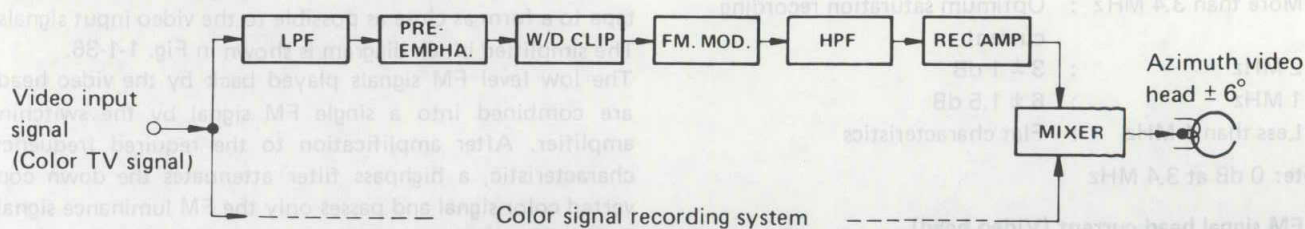

Fig. 1-1-33 Luminance signal recording system
Frequency modulation (FM) is used for the luminance signal recording system. A simplified block diagram of the system is shown in Fig. 1-1-33.